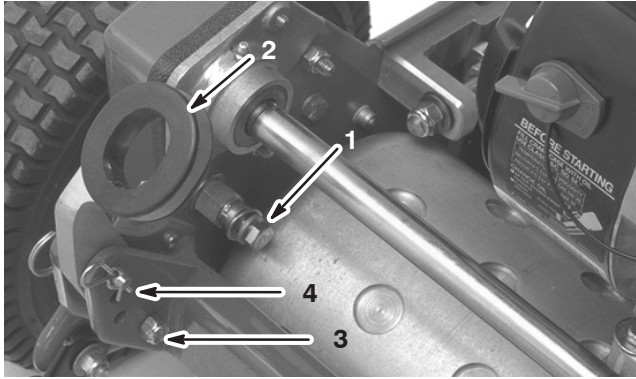

Figure 1
1. Remove the capscrew, washer, and lockwasher from the mounting pin on each side of the mower, as shown in Fig. 1.
2. Remove the capscrews and locknuts securing the bottom of the handle arms to each side of the mower, as shown in Figure 1.
3. Remove the hairpin cotters and ring pins securing the handle arms to the rear of the frame (Fig. 1).
4. Insert the handle ends thru the holes in the handle arms and align the holes with the mounting pins (Fig. 1).
1. Remove the hairpin cotters from the ring pins on each side of the mower (Fig. 1).
2. While supporting the handle, remove the ring pins from each side and raise or lower the handle to the desired operating position. (Fig. 1).